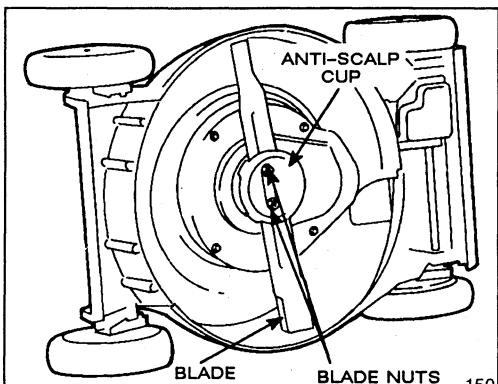

Figure 18
3. Tip mower on its right side (Fig. 18).
5. REMOVING BLADE—Grasp end of blade using a rag or thickly padded glove. Remove blade nuts, anti-scalp cup, blade, blade spacer, and rotating screen (Figs. 18 & 20).